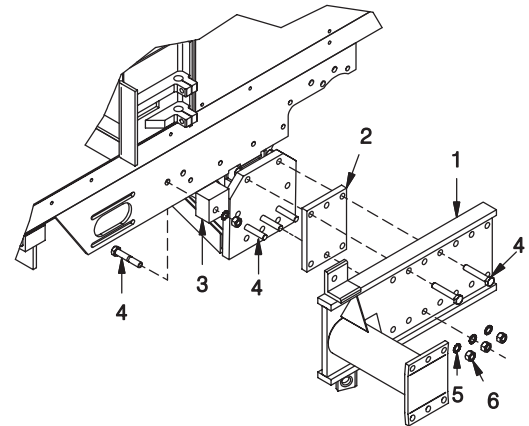

Figure 2-3-3 - Mounting Spacer Plate & Tandem Plate
A. (See Figure 2-3-3) Place (3) Item 4 Bolts through the axle. Place (1) Item 4 Bolt through frame. Place (1) Item 2 Spacer on axle. Place (1) Item 1 Tandem Plate and (1) Item 3 Spacer as shown. Place the rest of the bolts, star washers and nuts so the tandem plate and spacer are secure. Torque all nuts and bolts as per torque chart on page 2-3-1.